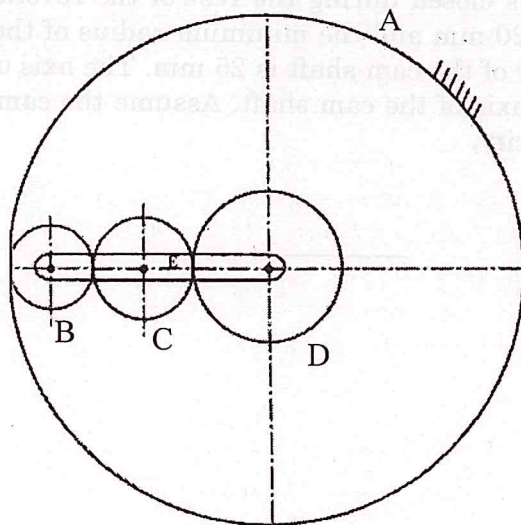

Fig. 4
- (b) An epicyclic gear train shown in Fig. 4 is composed of a fixed annular wheel A having 150 teeth.  $Z_B = 25$ ,  $Z_D = 40$  and C is an idle gear. Gear D is concentric with gear A. Wheels B and C are carried on an arm E which revolves clockwise at 120 rpm about the axis of A. Find the number of teeth of gear C and its speed and sense of rotation.